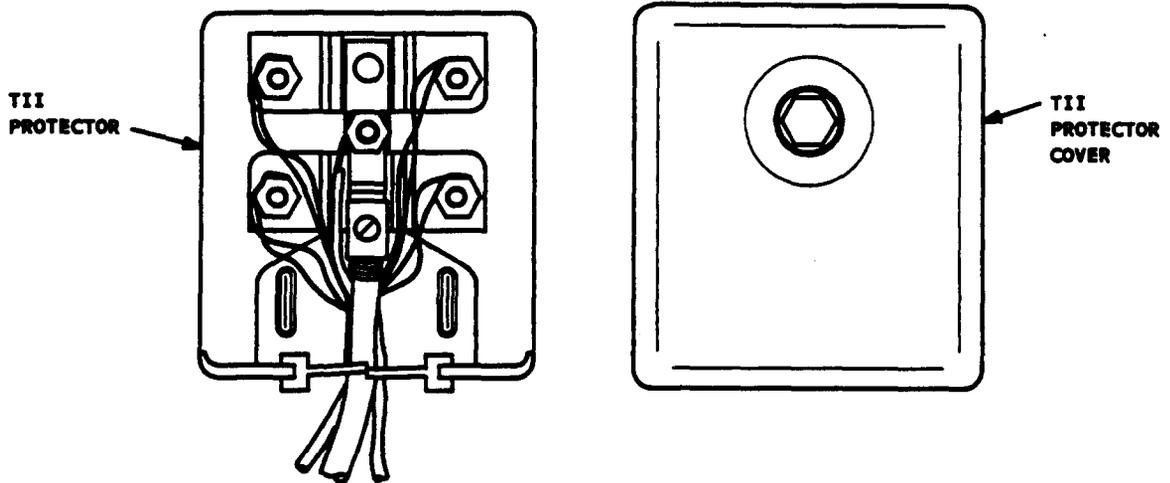

Figure 19. Removing Cover of TII Protector
- (1) Remove the cover of the TII 325/326 protector, using the 216 tool (Figure 19). Verify that the TII protector is securely mounted.